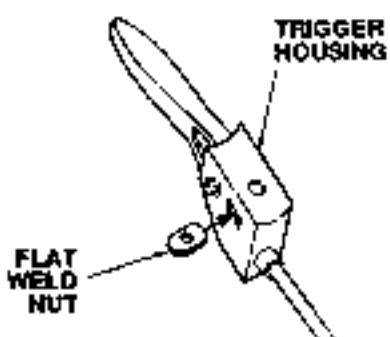

Figure 7-31. Inserting Flat Weld Nut
10. Slide the flat weld nut (21, Fig. 7-24) into the trigger housing. See Figure 7-31.